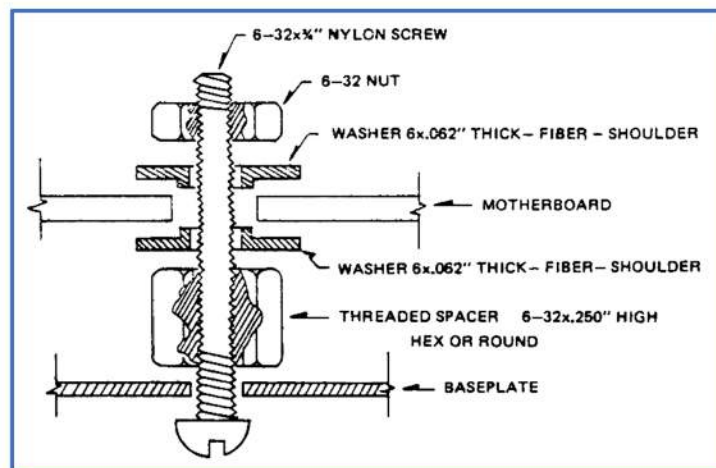

Figure 2. Backplane Mounting Detail
- ☐ Locate the twenty-four backplane mounting holes in the cabinet base plate. They are in two rows running from the front to the back, spaced a little over 7 inches (180 mm) apart. Refer to FIGURE 2 for a pictorial of how the backplane mounting system is arranged.